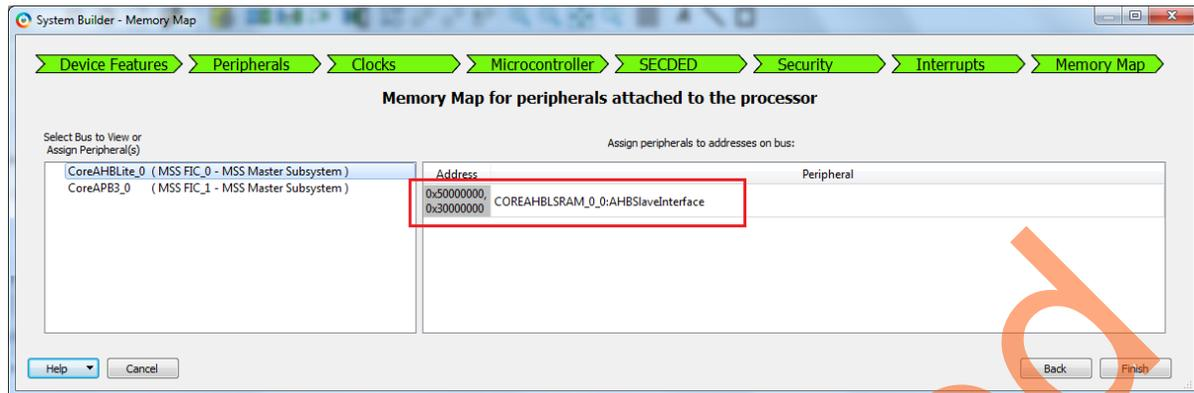
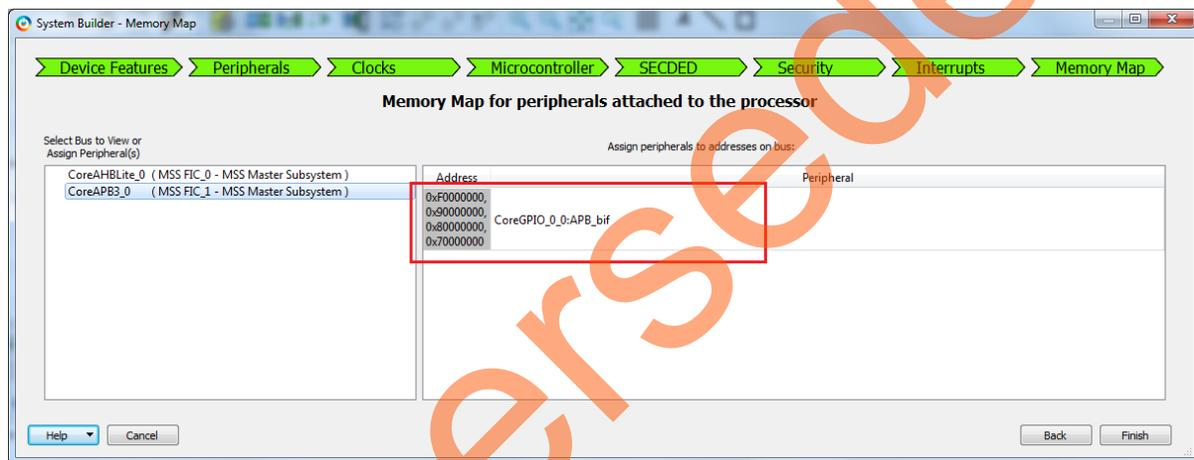

Figure 15 • SmartFusion2 System Builder CoreAHBLite Address Map (M2S050T Device)
Figure 16 • SmartFusion2 System Builder CoreAPB Address Map
- Figure 15 and Figure 16 shows the address maps for AHBL and APB3 peripherals.